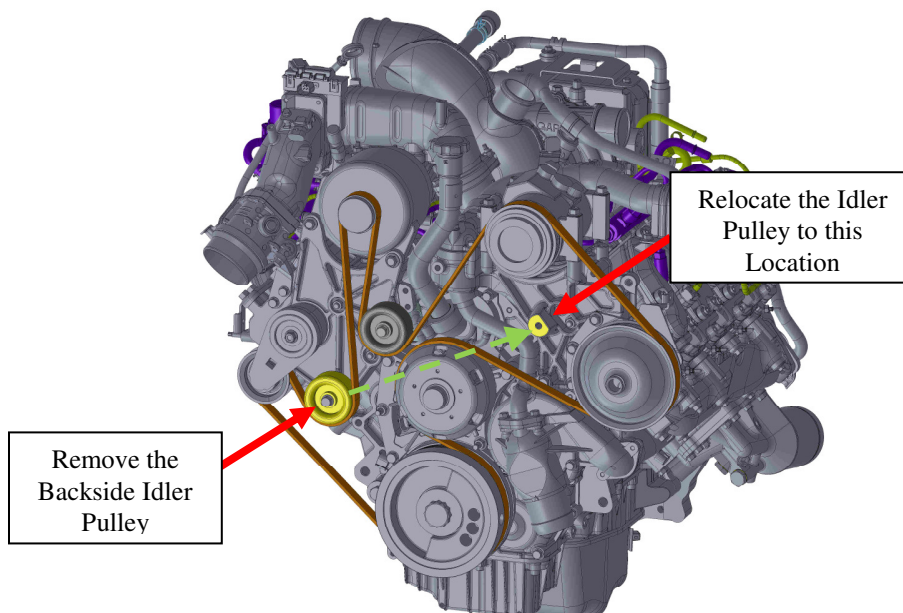

Figure 3: Backside Idler Pulley Location
5. Remove the backside idler pulley shown in Fig. 3 and relocate it to the mount under the A/C compressor.